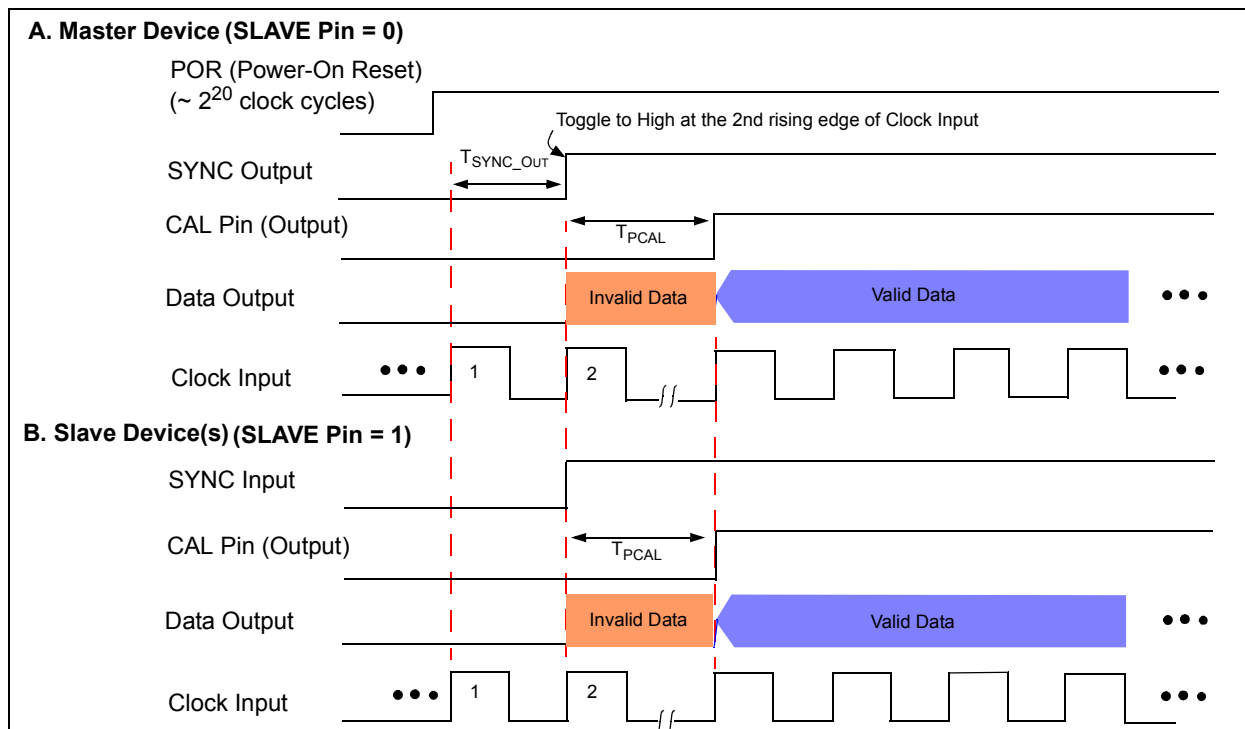
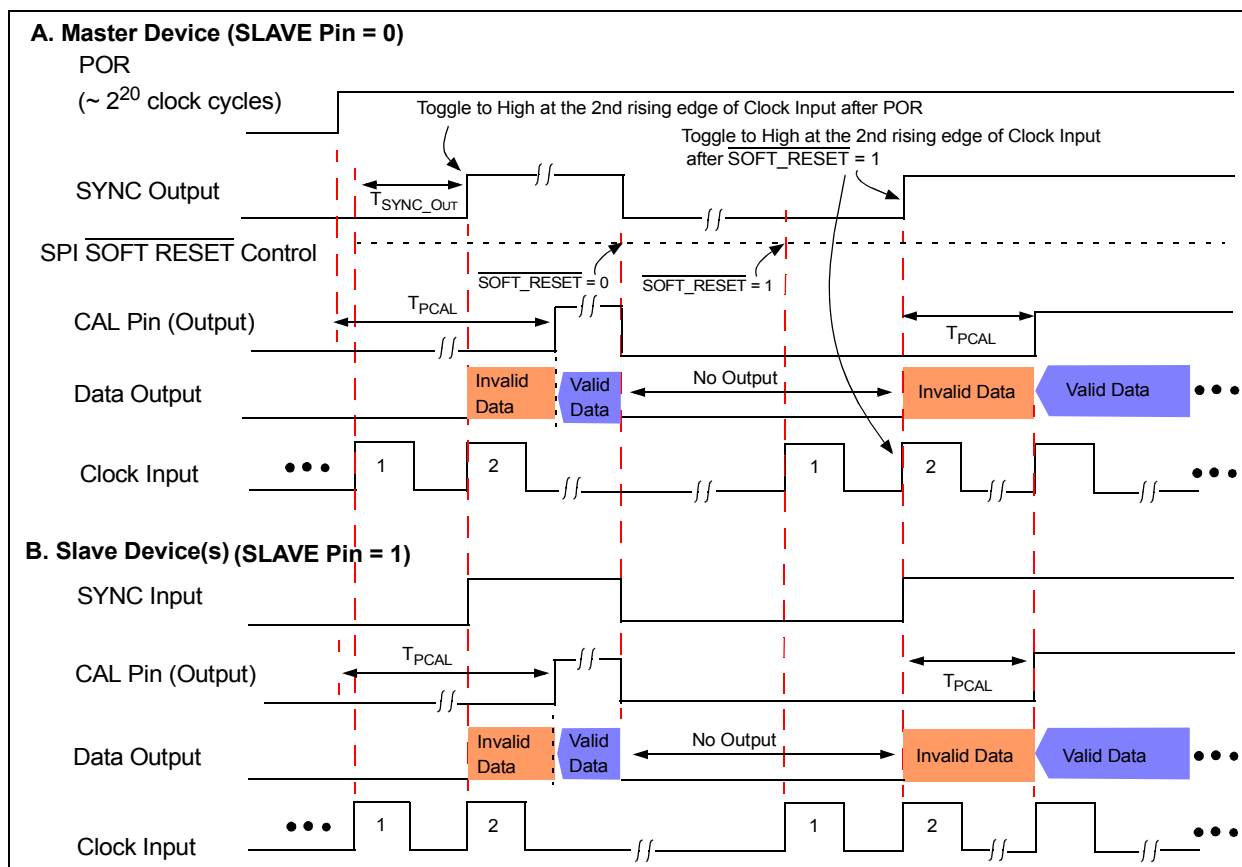

FIGURE 2-9: Sync Timing Diagram with Power-On Reset.
FIGURE 2-11: Sync Timing Diagram with $\overline{SOFT_RESET}$ Bit Setting.
- Note 6:** Characterized with a single slave device. The maximum ADC sample rate for AutoSync mode may be reduced if multiple slave devices are used. See Figure 2-9 - Figure 2-11, and Figure 4-27 for details.